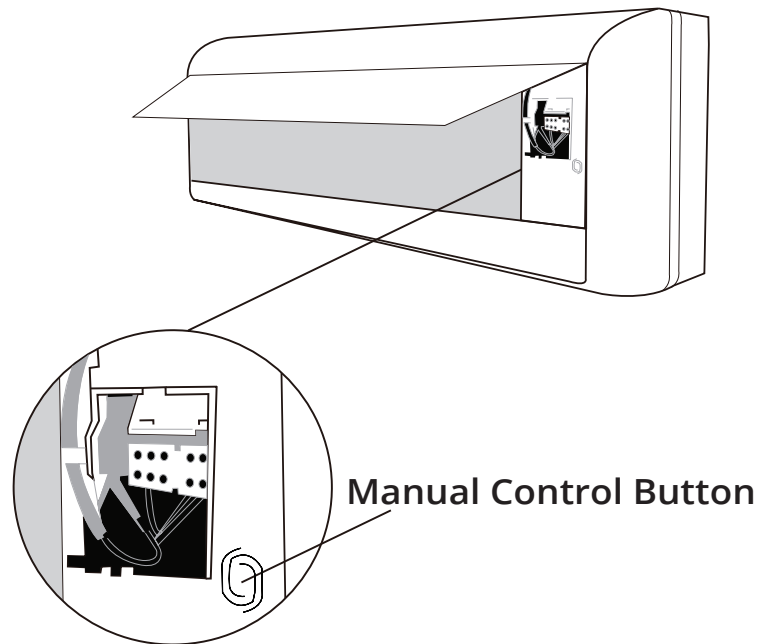

Fig. 9.1
2. The **MANUAL CONTROL BUTTON** is located on the right-hand side of the unit (Refer to Fig 9.1). Press it 2 times to select the COOL function.